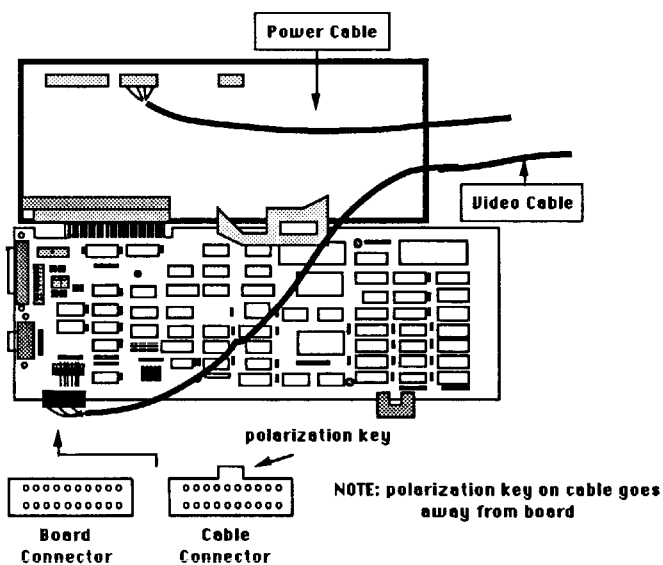

Figure 6
2. Separate the video cable from the power cable. They are tied together by wire wraps. Be careful not to cut any wires. Unplug the video cable from the main board. This will be connected to **J6** (Video Output Connector) of the Trackstar board last. Do not connect the cable to J6 yet. Be careful of the polarizations of all connectors: they can be connected only one way. See Figure 6.